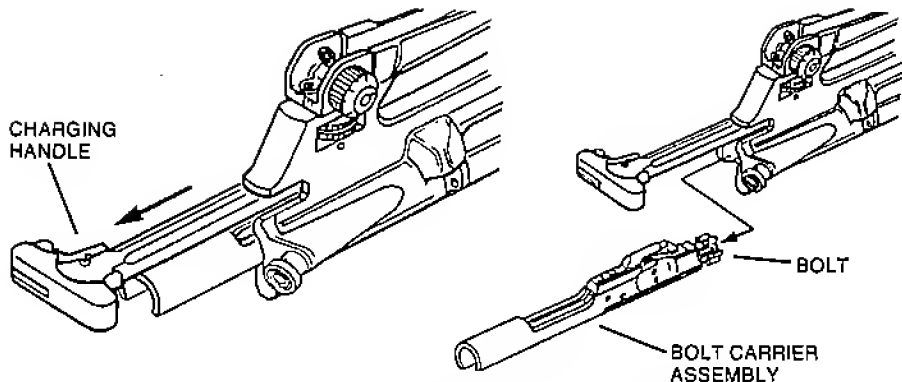

FIGURE 9 — REMOVE BOLT CARRIER ASSEMBLY
5. Pull charging handle to rear and remove bolt carrier assembly. (See Figure 9.)